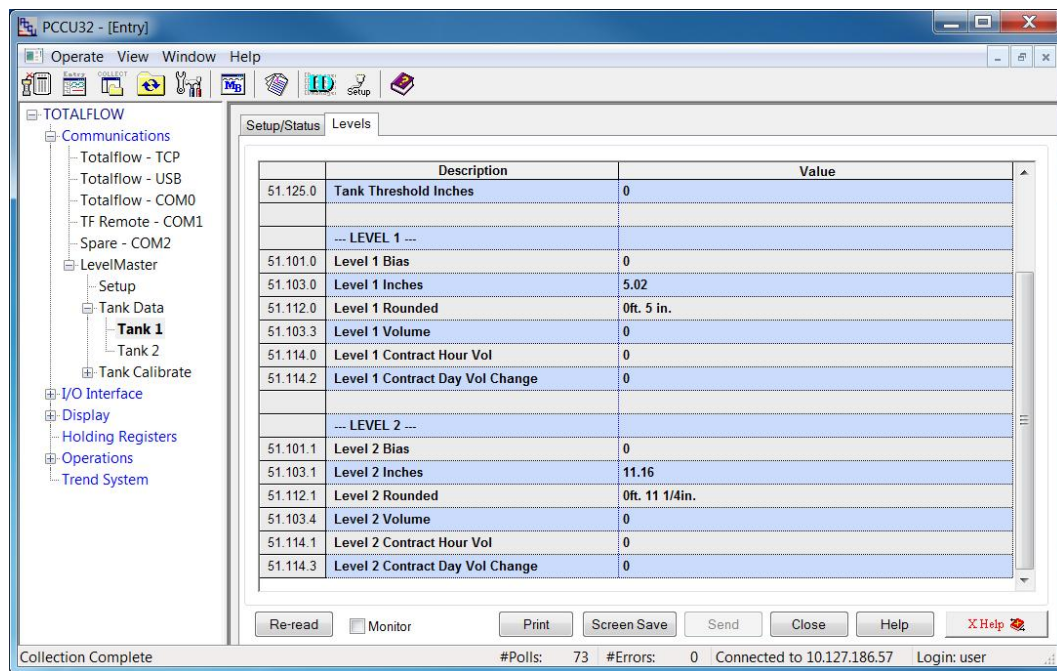

Figure 51: Determining register address for LevelMaster measurement values (Levels tab)
- c. Locate the desired variable on the **Setup/Status** or **Levels** tabs (Figure 51).